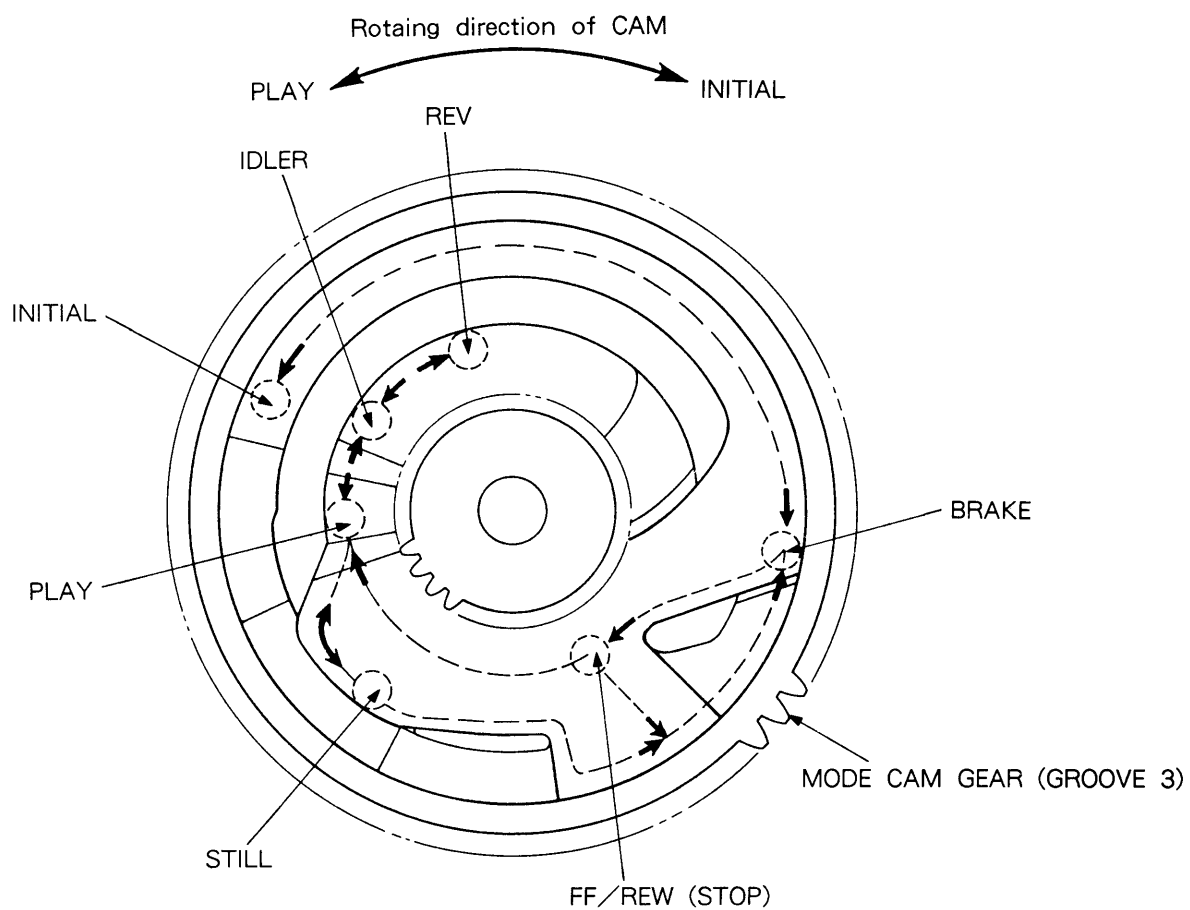

Fig. 2-10 POSITIONING OF BRAKE CAM SLIDE-PIN ON THE GROOVE 3 OF MODE CAM GEAR
The brake lock momentary release mechanism is shown in Fig. 2-9 ③, ④ and Fig. 2-10.